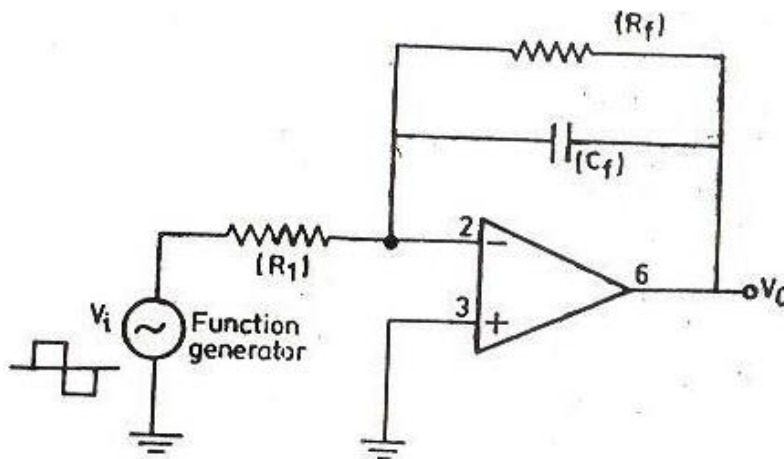

Fig.3.2: Integrator using Op-amp
1. Connect the circuit as per the circuit diagram shown Fig.3.2.